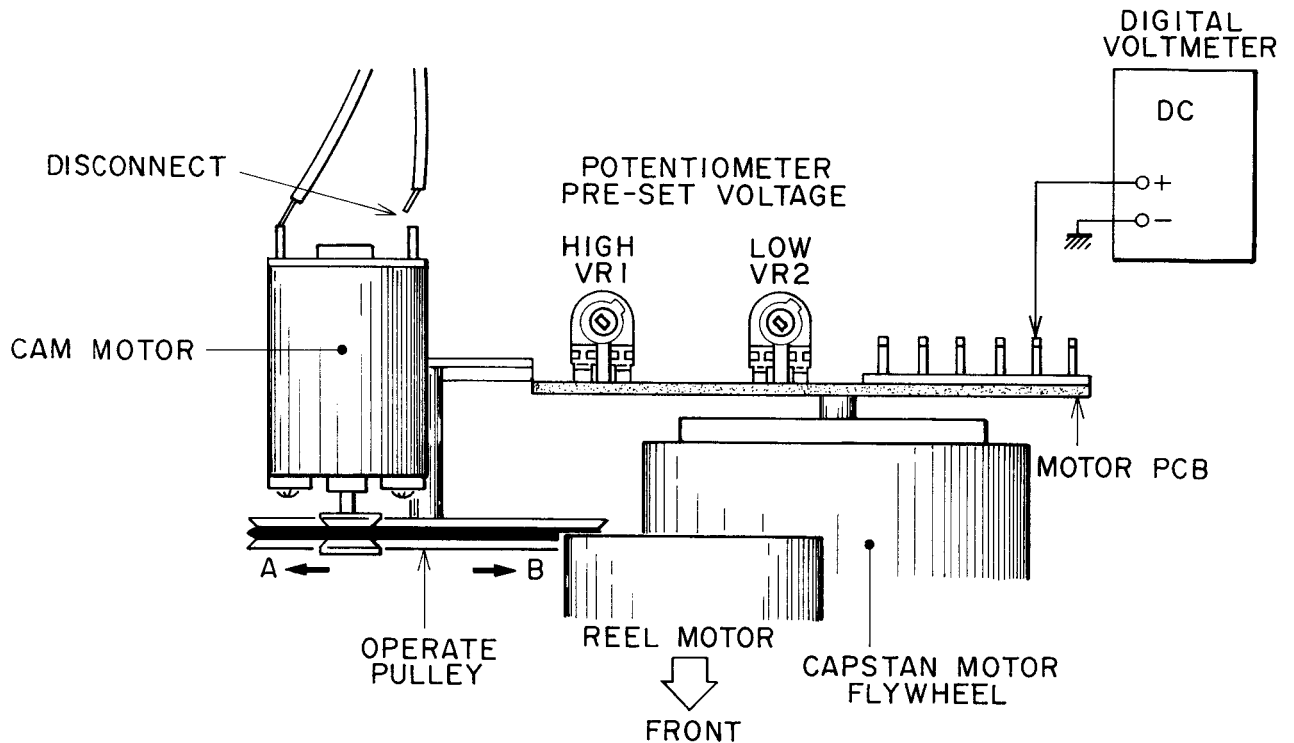

Fig. 8-1
- b. Connect the digital voltmeter as shown in Fig. 8-1.
- c. With power ON, adjust VR2 so that the voltage reading will be 0.78V (DC).
- b. With power ON, adjust VR1 so that the voltage reading will be 6.73V (DC).